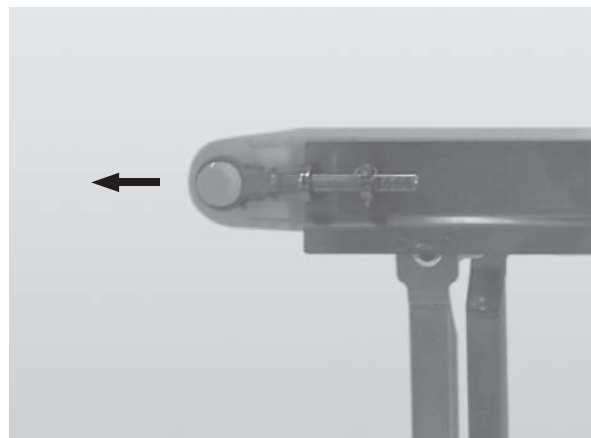

Figure 44
8. Extend the tension end to remove excess slack in the belt (**Figure 44**).